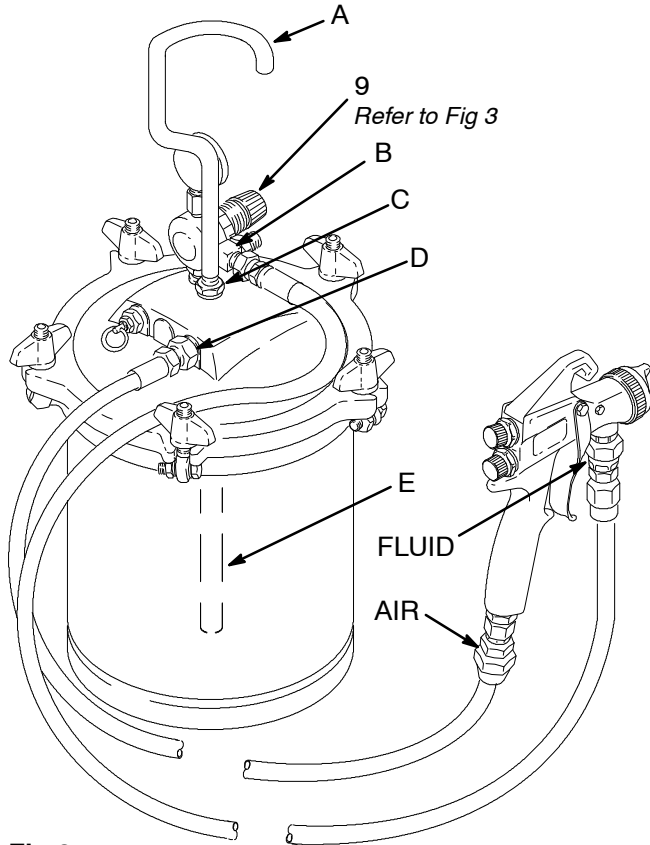

Fig 2
Assemble the air regulator (9) as shown in Fig 2. Screw the regulator assembly into the port marked AIR on the tank cover.
Remove the handle (A) and nut (C). Remove the tank regulator assembly (9) and assemble the second regulator to it as shown in Fig 2.